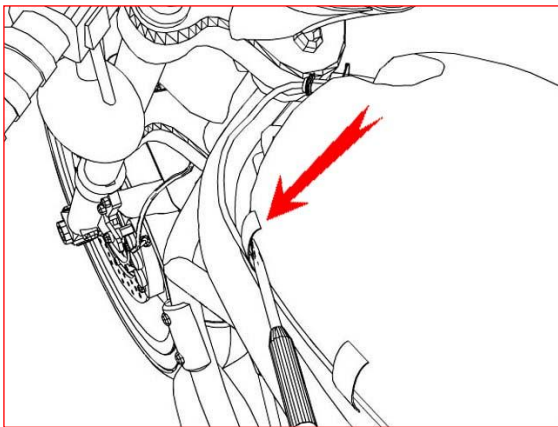

Figure 2
2. **Use a screwdriver to disengage the 8 clips retaining the airbox lid. The front clip is not visible and must be reached from the right side. (see figure 2)**